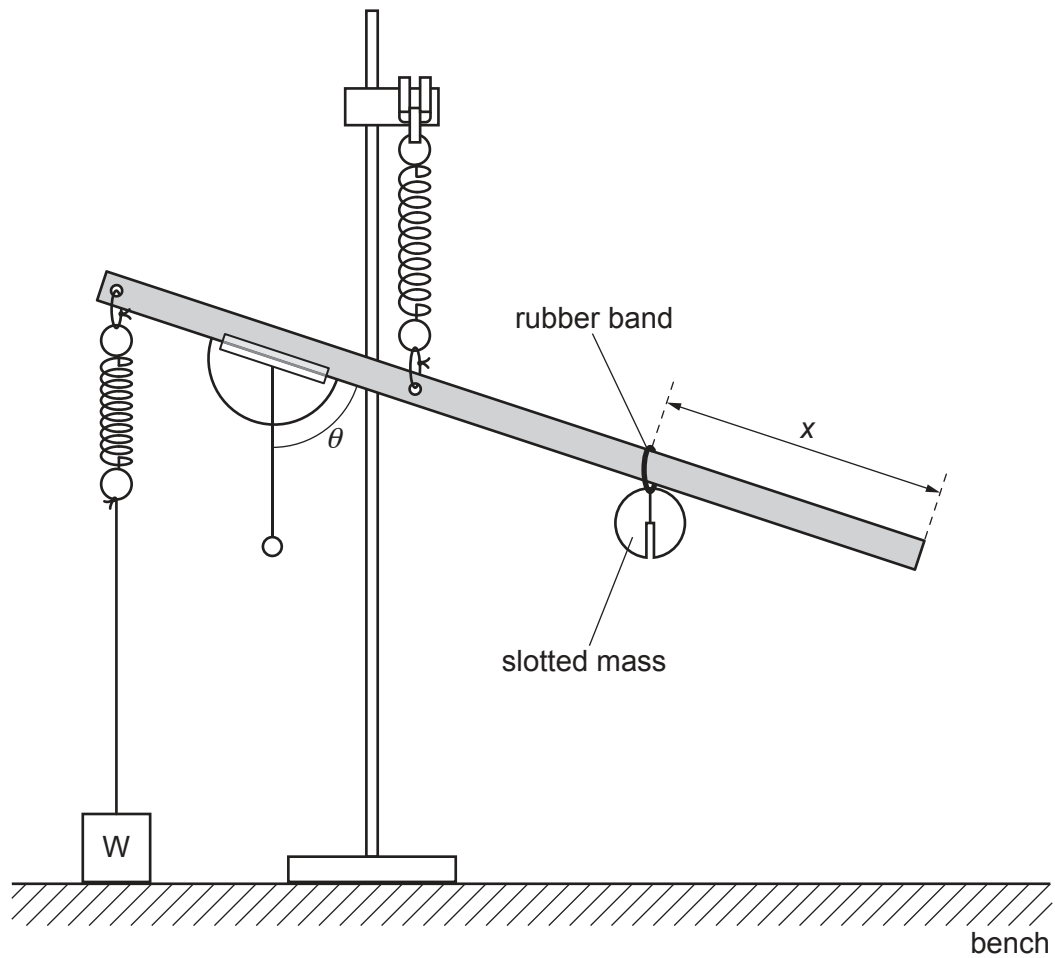

Fig. 1.2
- Slide the rubber band and slotted mass onto the rule so that the rubber band is approximately 30 cm from the end of the rule. The rule will tilt down, as shown in Fig. 1.2.
- The distance between the rubber band and the end of the rule is x , as shown in Fig. 1.2. Measure and record x .
- The angle indicated by the plumb-line on the protractor scale is θ , as shown in Fig. 1.2. Measure and record θ .